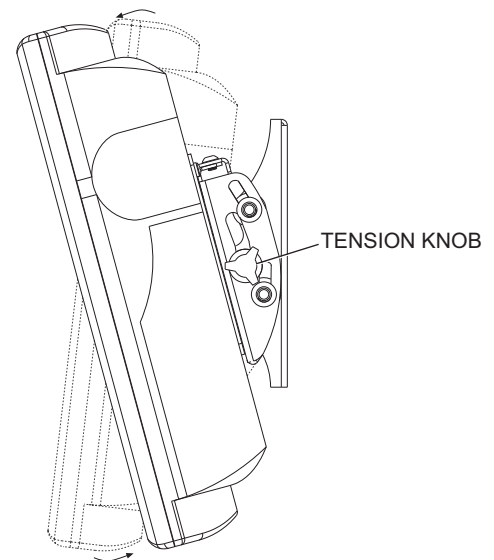

fig. 4.1
- 4** Adjust tension knob on right side of mount shown in figure 4.1 to desired tension to balance your display size and weight.
Push or pull from top or bottom of display to adjust tilt as shown in figure 4.1. The tilt can be adjusted to a maximum of 15° forward or 5° backward.